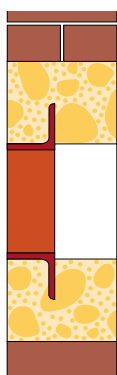

Fig. 1
**RGB** frames can be cast directly into concrete walls or floors (figures 1 and 2). Alternatively the frames can be cast into a loose section that is built in later. When the demands for fire safety are extremely high, frames can be mounted back-to-back (fig. 3). Such an installation can also be pressure tested.